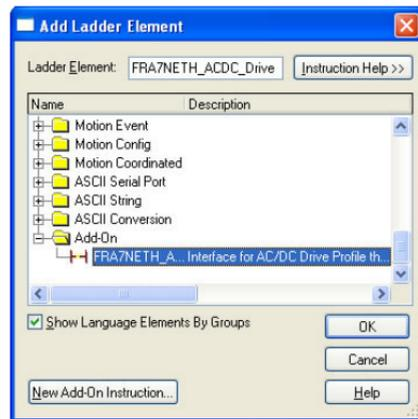

Figure 90: Add AC/DC Drive Profile Add-On Instruction
- 8) Select the AC/DC drive profile add-on instruction in the Add-On folder. Refer to Figure 90.